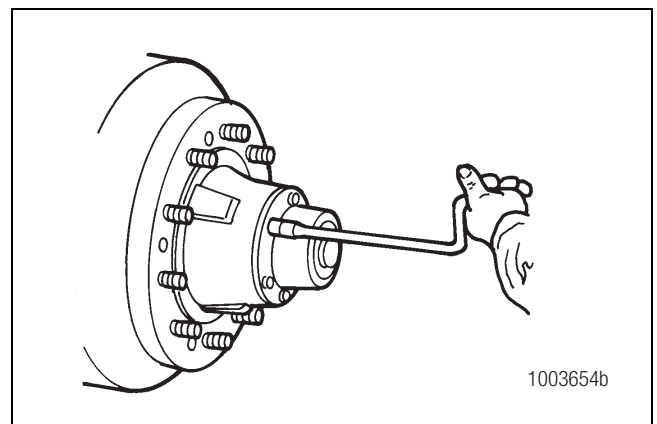

Figure 2.6
3. Place a container under the hubcap to receive the draining oil. Then, remove the hubcap and hubcap gasket from both ends of the axle. Figure 2.6. Do not reuse either the hubcap gasket or the oil.